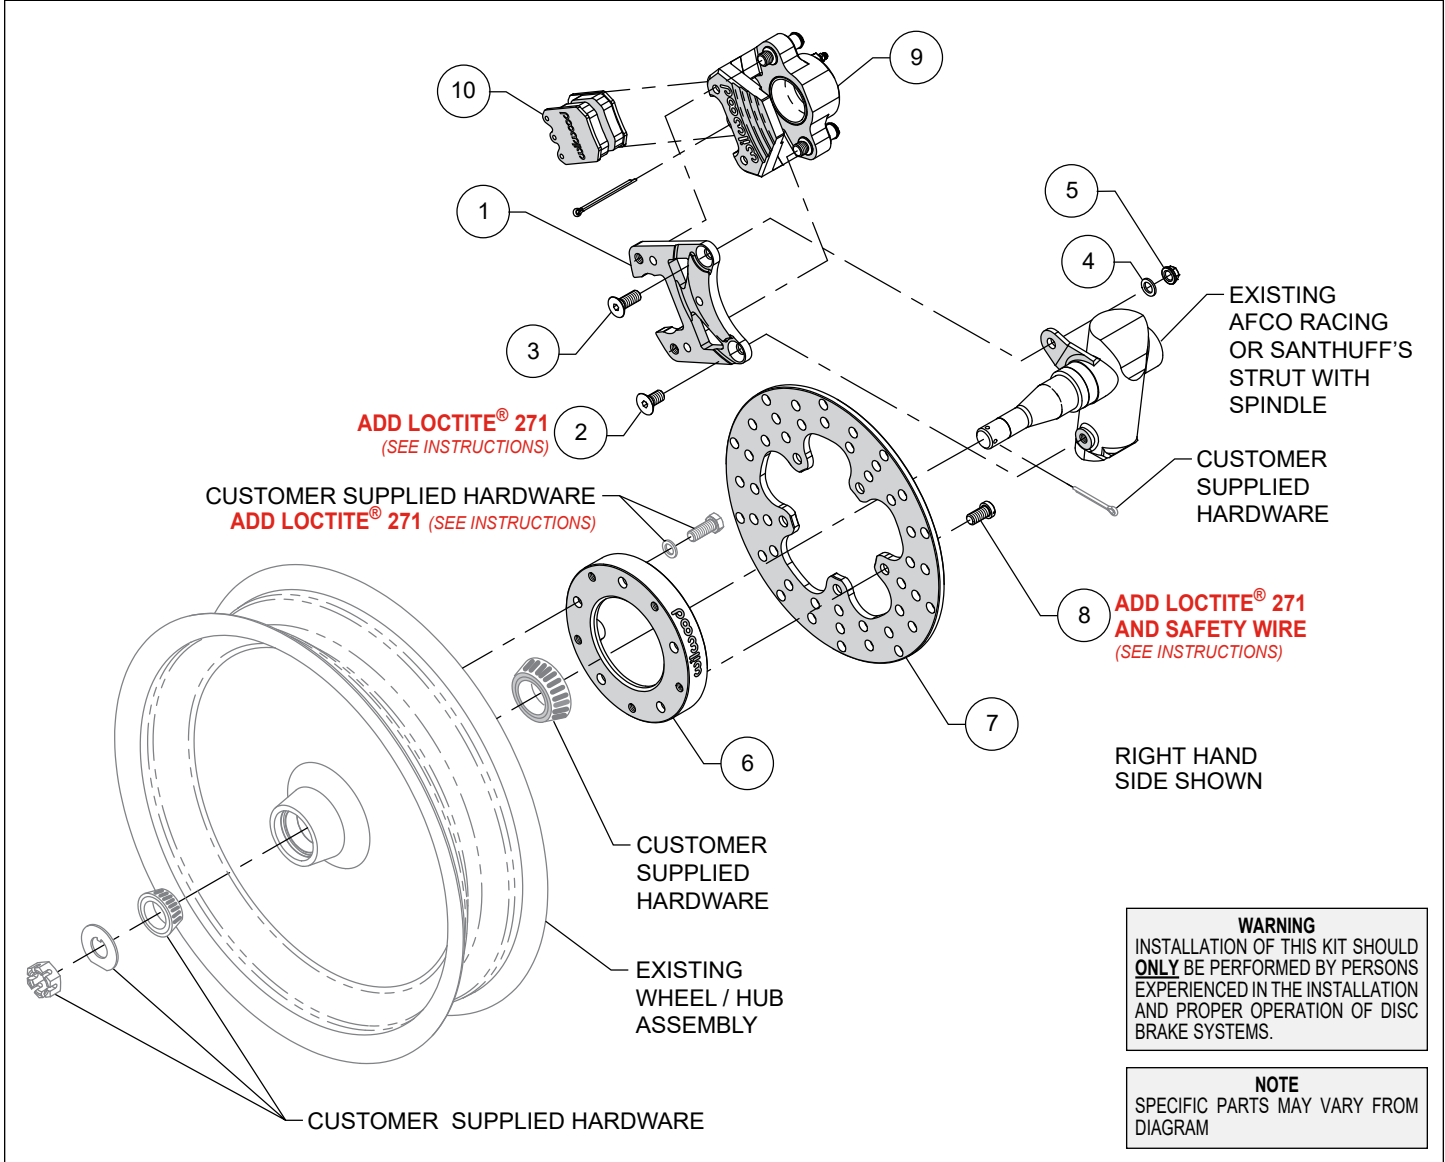

Figure 1. Typical Installation Configuration
NOTE: Numbers in parenthesis refer to the parts list and Figure 1 on the preceding pages.
- Orient the caliper mounting bracket (1) as shown in Figure 1 and Photos 1 and 2. **NOTE:** There are distinct right and left side brackets. The bracket must fit squarely against the mount bosses on the spindle/strut. Inspect for interference from machining ridges, burrs, etc. Install bracket to upper tab on spindle/strut using the longer bolt (3), washer (4), and self locking nut (5), Photo 3. Torque nut to 30 ft lbs. Apply red *Loctite*® 271 to threads of shorter bolt (2) and install on lower mounting hole. Torque bolt to 30 ft. lbs.
- Orient the wheel/hub and hat (6) as shown in Figure 1. Mount the hat (6) to wheel using customer supplied bolts and washers, Photo 4. Torque bolts to wheel manufacturer's specifications.
- Attach rotor (7) to hat (6) using bolts (8), Photo 5. Using an alternating sequence, apply red *Loctite*® 271 to the threads, and torque to 260 in-lbs.
- Mount the caliper (9) onto the bracket (1), Photo 6. Apply red *Loctite*® 271 to the slide pin threads contained within the caliper (9) and torque pins to 42 ft-lb.
- Remove the cotter pin from the caliper. Insert the brake pads (10) into the caliper (9), with the friction material facing the rotor as shown in Figure 1, Photo 7. Secure the brake pads in place by reinstalling the cotter pin, Photo 8. The bracket (1) acts as the pad retainer for the inboard side pad.